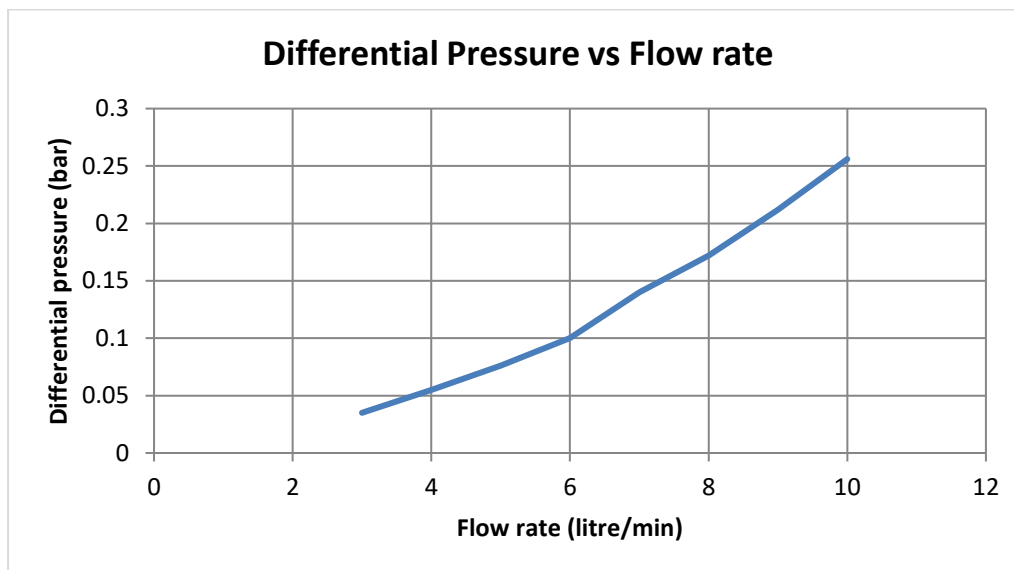

Figure 18 – Pressure drop vs. flow rate.
- See Figure 18 showing pressure drop vs flow rate